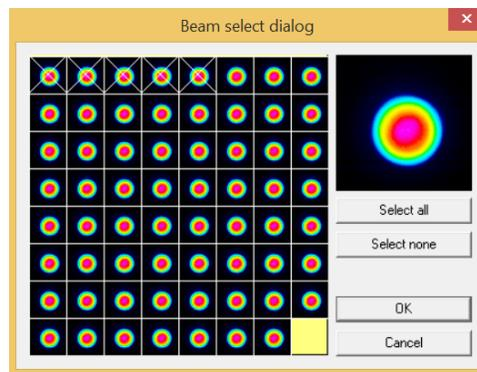

Figure 4.4: Images may be individually selected for inclusion in the .wcf file.
- **SELECT data from data buffer as wcf** Select images to save into a .wcf file (see Fig. 4.4).